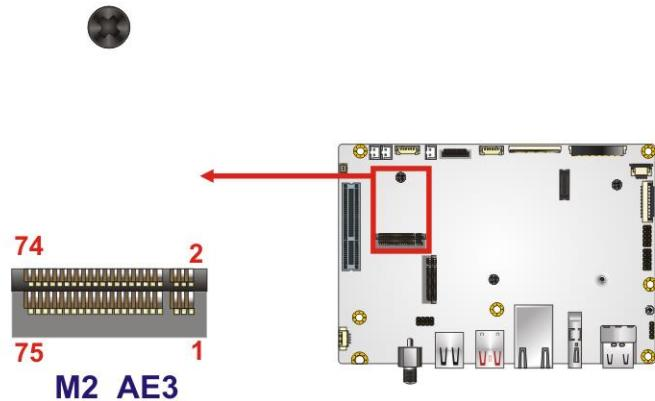

Figure 3-6: M.2 A/E Key Slot Location
3.2.2 M.2 A/E Key Slot**CN Label:** M2_AE3**CN Type:** M.2 A key 2230 slot**CN Location:** See **Figure 3-6**